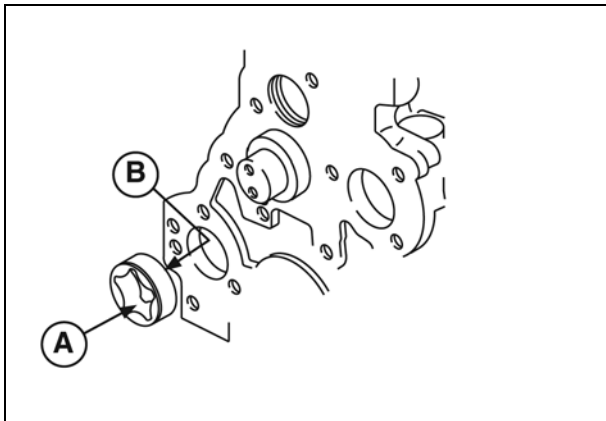

Figure 15
1. Clean and lubricate oil pump rotor (**A**, Figure 15) with engine oil and install on cylinder block.